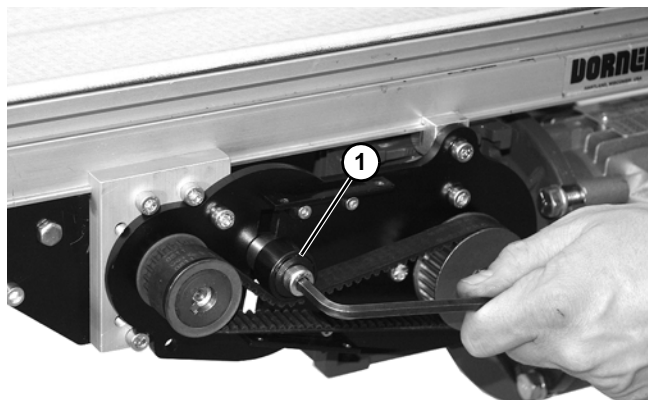

Figure 15
2. Loosen tensioner (Figure 15, item 1).